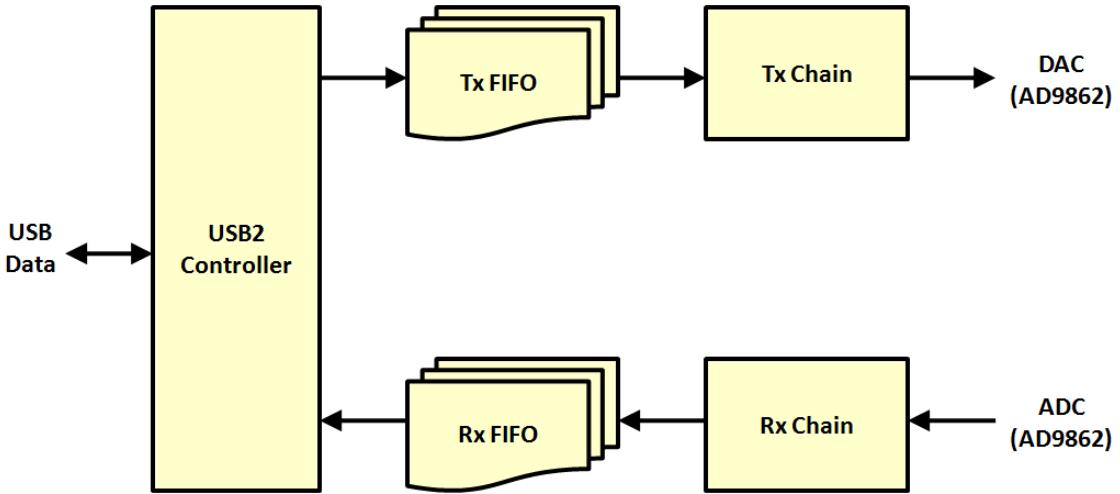
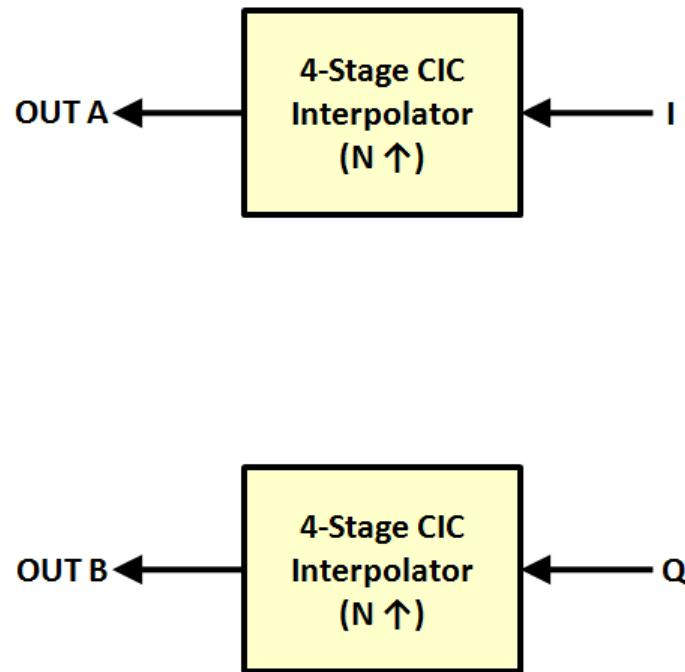

Figure 2.8: Data flow through the USRP. GNU Radio passes data to and from the USRP via the USB2 controller and the USRP handles the remaining signal processing.
Figure 2.9: Tx data flow through the USRP. The remainder of the digital upconversion process is handled by the AD9862.
The USRP exchanges data with the GNU Radio software via USB2. Data prepared for transmission first passes through a USB2 controller and then enters the Tx FIFO, which holds 4,096 lines of 16-bit data. From there, the data passes through the Tx Chain (see Figure 2.9) and then to the AD9862, which converts it to analog signals suitable for RF transmission and passes it along to the RF card. Data received on the RF card first enters the AD9862, which converts it to digital signals, then proceeds to the Rx Chain (see Figure 2.10). Next, this data enters the Rx FIFO ($4,096 \times 16$) while it waits for the USB2 controller to send it through to the GNU Radio software [30]. Figure 2.8 illustrates this process.
processing for outgoing data. The role of the USRP hardware is to transform these baseband signals into an intermediate frequency (IF) band and then present the result to the Analog Devices AD9862 mixed signal processor, which prepares it for the RF daughter card. The USRP supports two complex transmitters and so does the new firmware. However, the CubeSat SDR uses only one complex transmitter. Therefore, the figures in this chapter will display only one transmission path. Figure 2.9 shows the transmission data path through the USRP (the “Tx Chain” in Figure 2.8).
Similarly, GNU Radio handles the baseband processing for incoming data. Thus, the role of the USRP is to receive digital data from the AD9862 processor and then downconvert that data to baseband for GNU Radio. The USRP supports two full receivers or four receivers without the halfband filters. Because the CubeSat SDR platform uses only one complex receiver, the figures in this chapter will display only one receive path. Figure 2.10 shows the receive data path through the USRP (the “Rx Chain” in Figure 2.8).